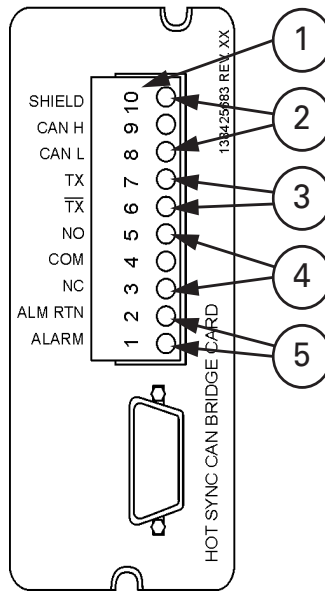
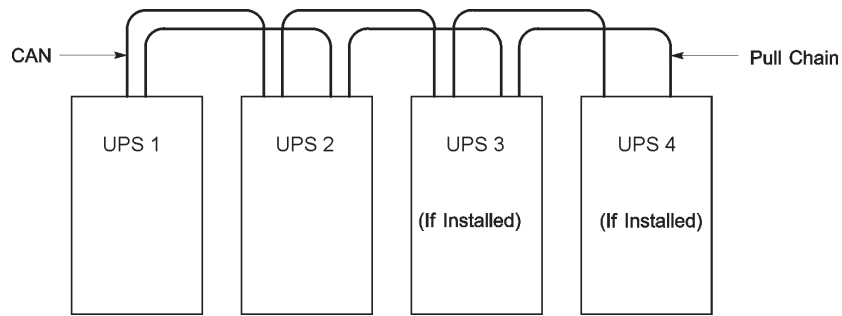
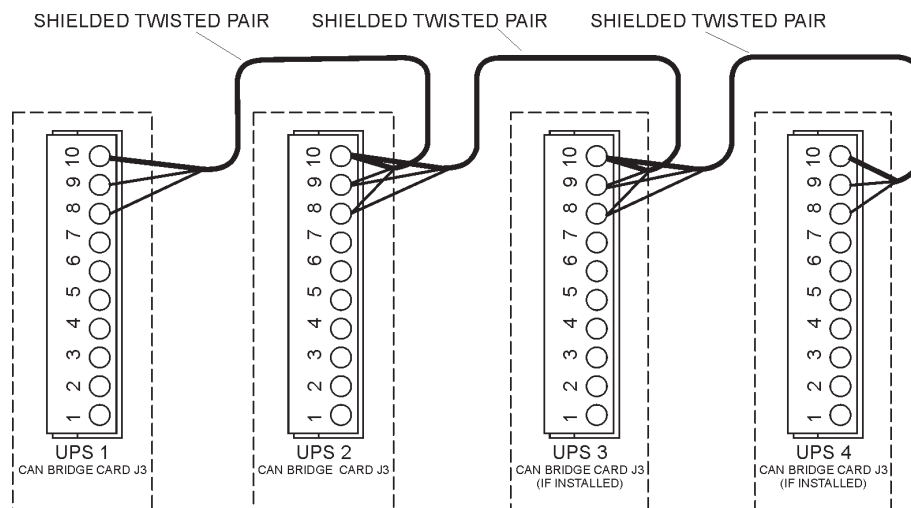

Figure 5-2. HotSync CAN Bridge Card connections
Figure 5-3. Distributed bypass system CAN and Pull-Chain simplified interface wiring
Figure 5-4. Distributed bypass system UPS CAN wiring without MOB
To locate the appropriate terminals on the HotSync CAN Bridge Card, see Figure 5-2 and Table 5-1 on page 49.
7. Route and install CAN wiring between the UPS cabinets. See Figure 5-2 and Table 5-1 on page 59 for the HotSync CAN Bridge Card terminal location and Figure 5-3, Figure 5-4, and Table 5-2 on page 52 for wiring information.